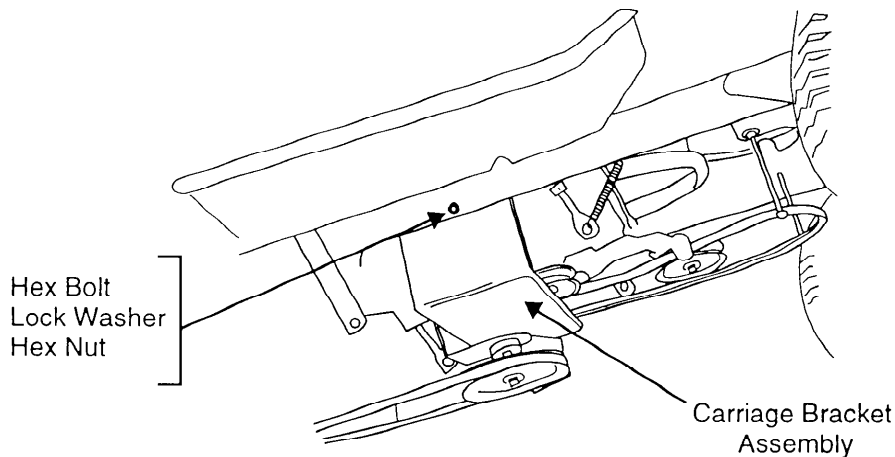

Figure 4
- Place carriage bracket assembly (AA) in position beneath the running board support rod on the tractor so belt will attach to engine pulley. Secure each side of carriage bracket to frame with hex bolts (E), lock washers (F) and hex nuts (G). Tighten securely. See Figure 4.